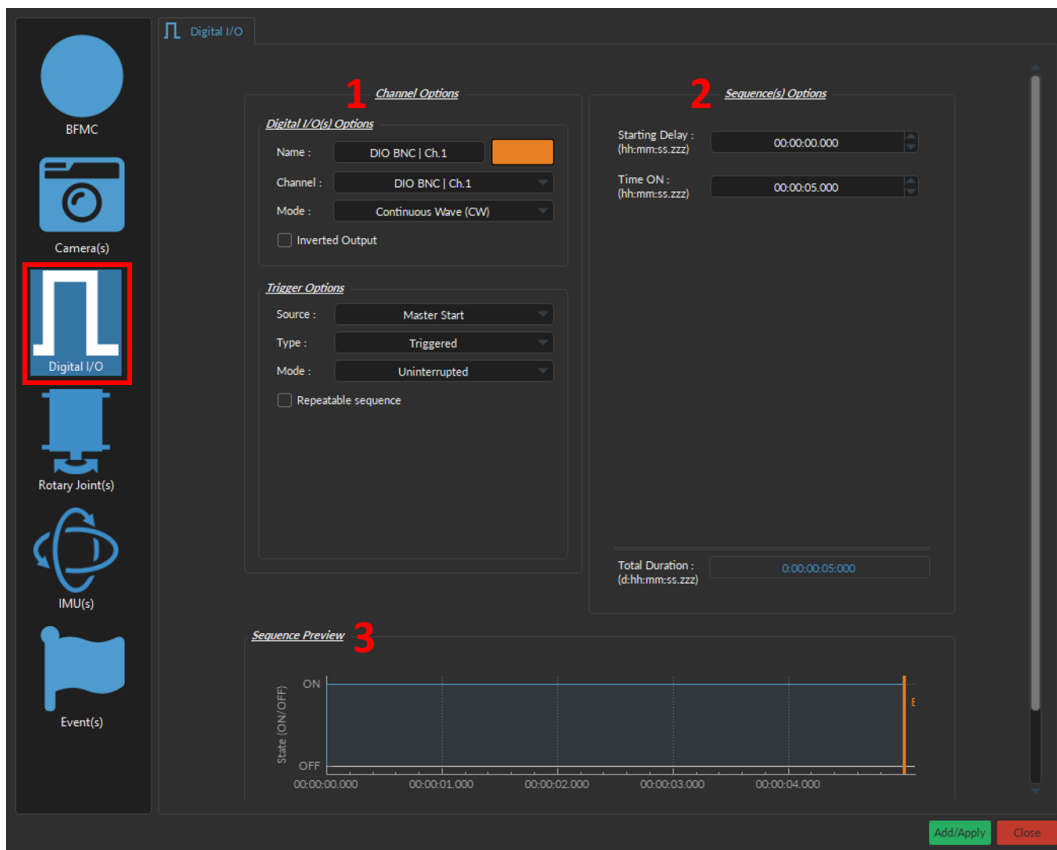

Figure 15.23: Channel(s) configuration window, Digital I/O
The *Channel(s) Configuration* window for the **Digital I/O** Channel is divided into three sections (Fig. 15.23): (1) the **Channel Options** (Section 15.4.2.1), (2) the **Sequence(s) Options** & (3) **Sequence Preview** (both treated in Section 15.4.2.2).